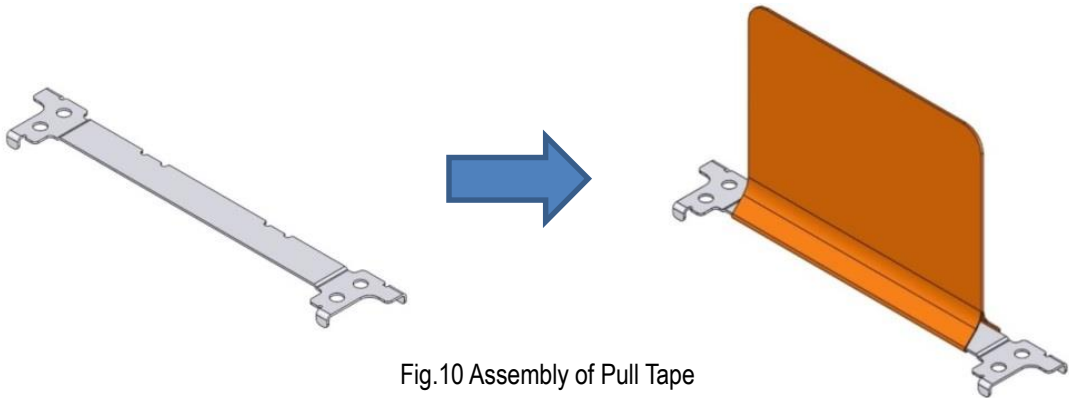

Fig.10 Assembly of Pull Tape
① Tape pull tape around pull taper holder as shown in Figure 10.